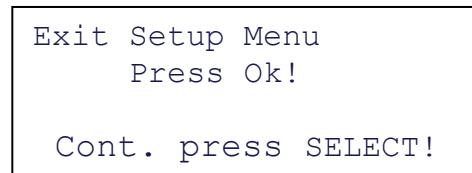

Fig. 14: leave the setup menu
- The message "Exit setup menu" appears in the display (see Fig. 14).